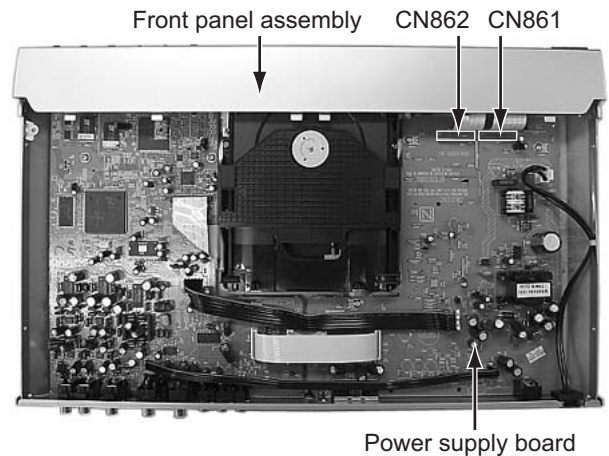
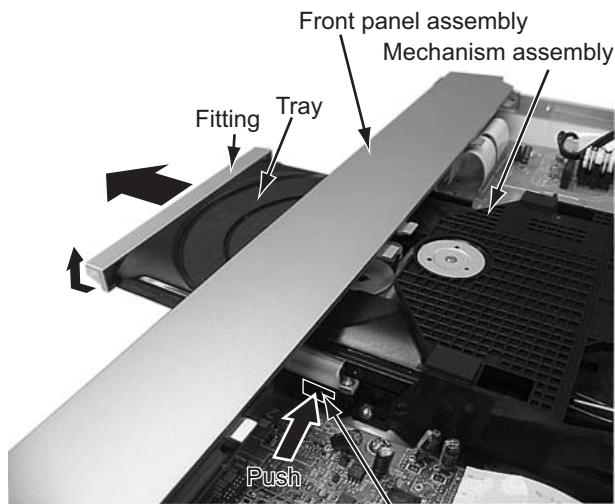
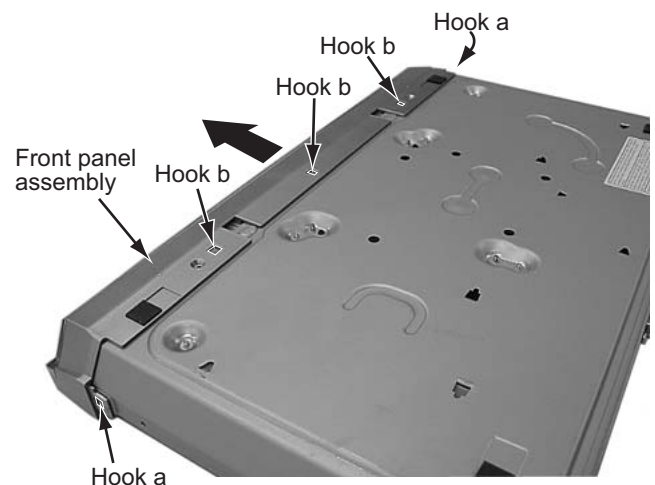

Fig.3
Fig.2
Fig.4
3.1.2 Removing the front panel assembly (See Figure 2, Figure 3, Figure 4)
3.1.3 Removing the mechanism assembly (See Figure 2, Figure 5, Figure 6)
- (1) Insert a kind of screwdriver in a hole located in the right side of mechanism assembly, and push a lever until it cannot be inserted any further. (See Figure 2)
- (2) And then, a tray will come out. Remove the tray in an upper direction, with slightly opening the lower part of fitting in an outward direction. (See Figure 2)
- (3) Remove the three screws **C** attaching the mechanism assembly.
- (4) The switch on a relay board is made into the "SHORT" side.
- (5) Disconnect the card wire from connector **CN101** on the servo control and signal output terminal board.
- (6) Remove the mechanism assembly by lifting the rear part of the mechanism assembly.
3.2.1 Removing the tray (See Figure 1, Figure 2, Figure 3, Figure 4, Figure 5, Figure 6)
- (2) The tray comes out. Pull the tray in a front direction until it stops.
- (3) Remove the two screws **A** attaching the slide bracket. (See Figure 2.)
- (4) Tilt the tray in a direction of the arrow around the point in the left rear part of the tray. (See Figure 3.)
- (5) The rail of the tray is removed from **b** of the loading base. Then, remove the tray upward. (See Figure 4.)